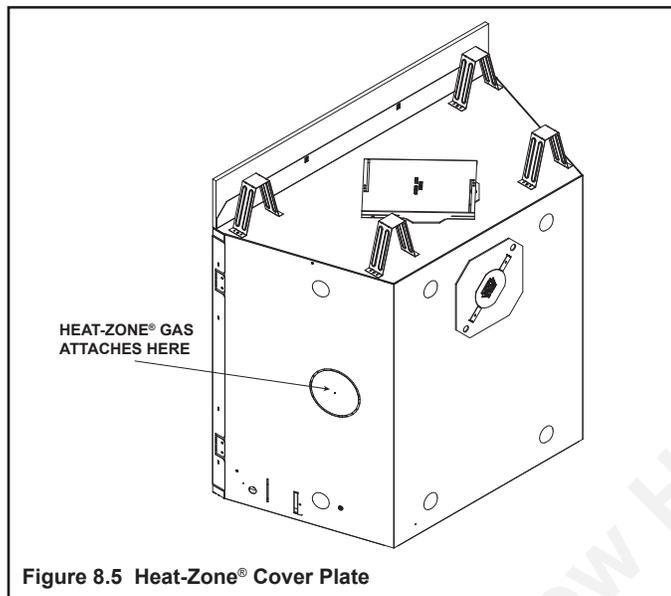

Figure 8.5 Heat-Zone® Cover Plate
- Remove the knockout from the fireplace and discard it (see Figure 8.5).